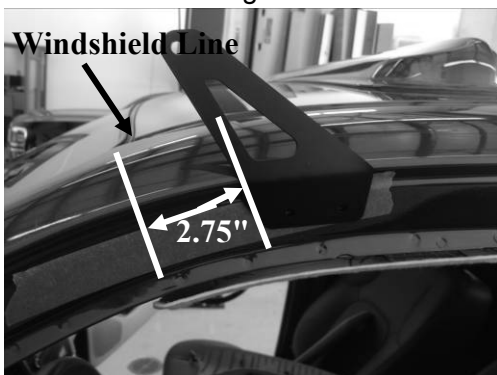

Figure 1
6. Place tape where bracket will be mounted and mark drill holes with a marker. See **Figure 1** for bracket mounting location.